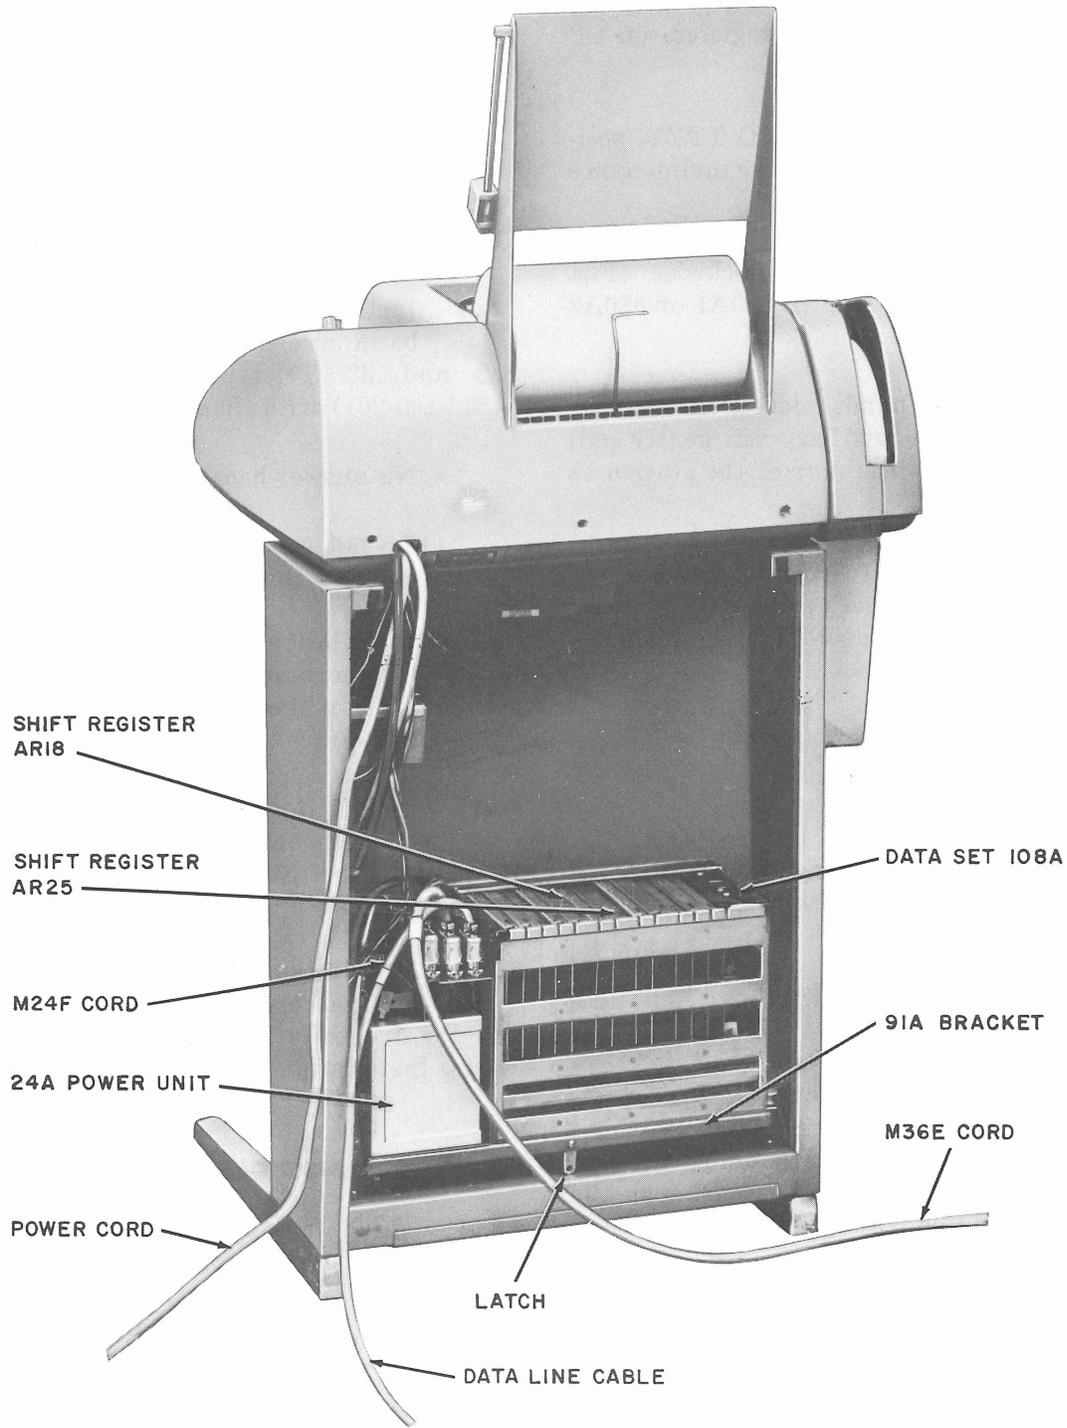

Fig. 2 — Data Auxiliary Set 820A2, Location For 33-Type TTY's, 33 ASR Illustrated
(1) Rotate latch counterclockwise (Fig. 2). This allows DAS 820A1 or 820A2 to pivot on the 91A bracket.